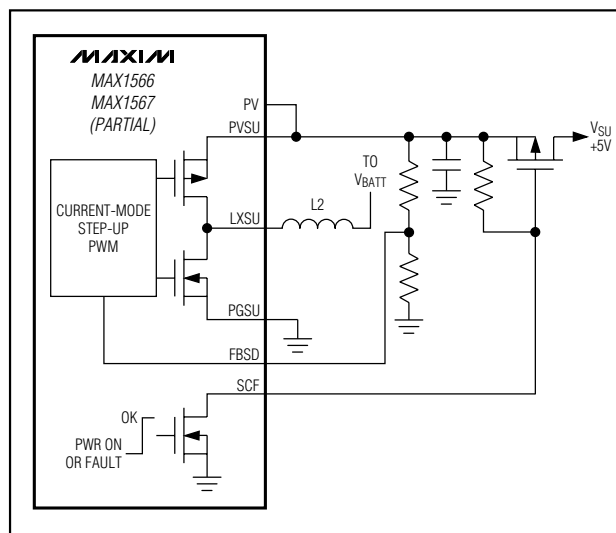

Figure 17. SCF Drives PFET Load Switch on 5V to Disconnect Load on Fault and Allow Full-Load Startup
**SCF** goes high (high impedance, open drain) when overload protection occurs. Under normal operation, **SCF** pulls low. **SCF** can drive a high-side P-channel MOSFET switch that can disconnect a load during power-up or when a channel turns off in response to a logic command or an overload. Several connections are possible for **SCF**. One is shown in Figure 17 where **SCF** provides load disconnect for the step-up on fault and power-up.
If a soft-short or overload remains on PVSU, the startup oscillator switches the internal N-channel MOSFET, but fault is retriggered if regulation is not achieved by the end of the soft-start interval. If PVSU is dragged below the input, the overload is supplied by the body diode of the internal synchronous rectifier, or by a Schottky diode connected from the battery to PVSU. If desired, this overload current can be interrupted by a P-channel MOSFET controlled by SCF, as shown in Figure 17.
up may have difficulty starting into heavy loads (see the Minimum Startup Voltage vs. Load Current (OUTSU) graph in the *Typical Operating Characteristics*); however, this can be remedied by connecting an external P-channel load switch driven by SCF so the load is not connected until the PVSU is in regulation (Figure 17).